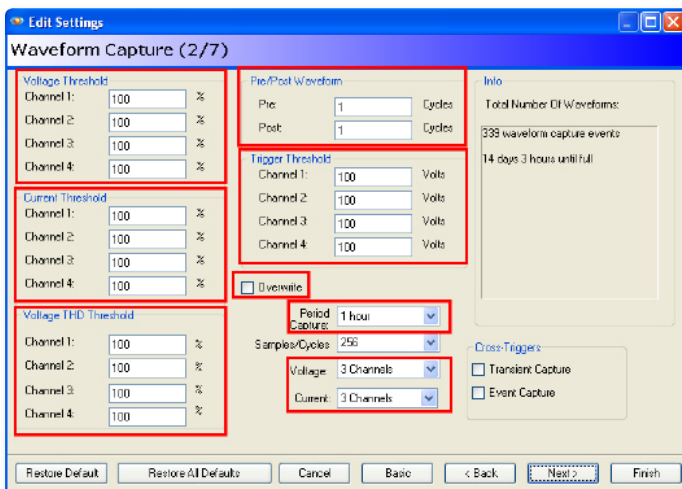

Figure 7. Waveform Capture Screen
In the Waveform Capture Screen, Figure 7, the following settings will be changed: Waveform capture (Disabled by setting thresholds to 100%), Pre and Post Waveform (1 Cycle), Waveform overwrite (Disabled), Period Capture (1 Hour), V&I Channels (3).